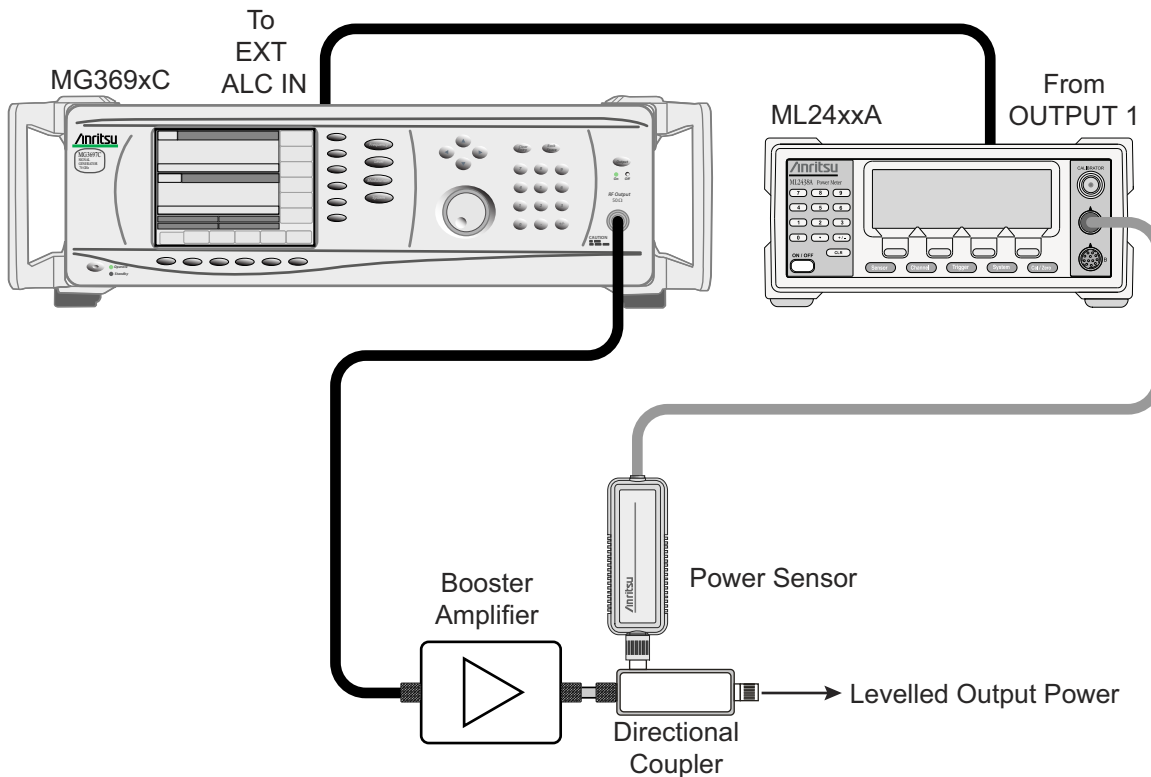

Figure 7-9. Source Levelling Control ALC Setup
5. Connect the equipment as shown in Figure 7-9